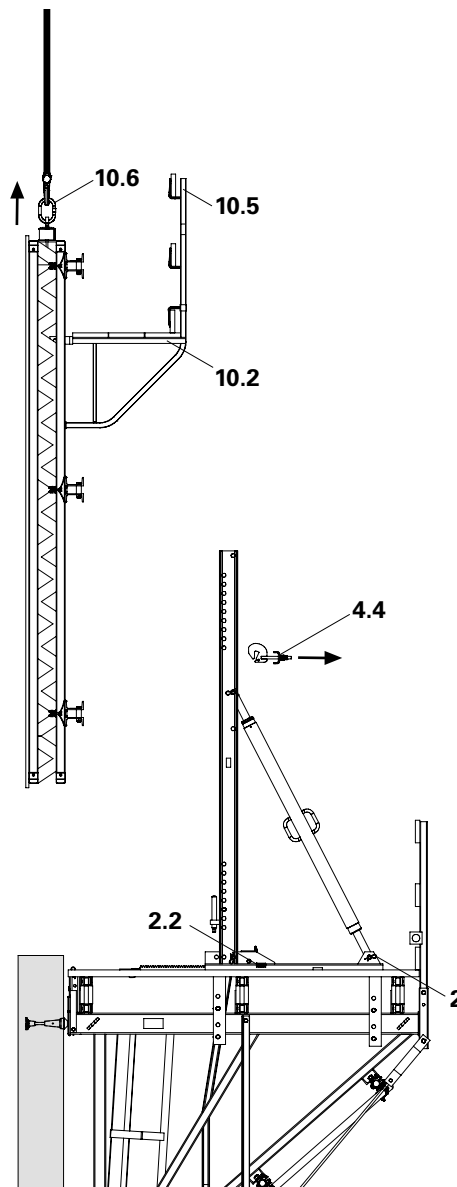

Fig. B2.10
1. Retract Carriage (2) and secure with wedge (2.2), see B4.1. Brace Strong-backs laterally.
4. Raise formwork and remove (e.g. storage area). (Fig. B2.10)